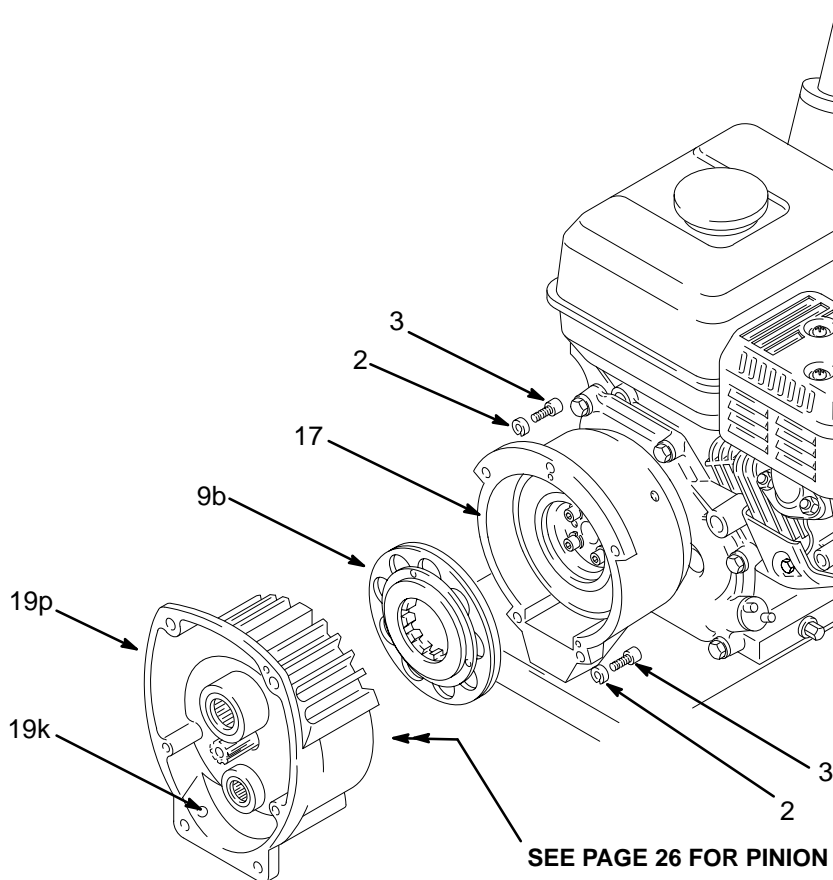

Fig. 20
6. Back off the piston housing just until the holes and flutes (B) mentioned in the CAUTION are perfectly aligned, and the tips (B) are not visible when you look through the holes (A). See Fig 20–1. Screw the piston housing (416) down to the nut (414) and torque to 90–125 ft-lb (122–170 N.m).
7. From the top of the pump housing (417), install the male gland (403). With the lips of the v-packings facing down, alternately install the leather packings (418*), and poly packings (402*). Install the female gland (419*).
8. Screw in the packing nut (420) loosely. It will be tightened after the pump is installed and operating.
9. Grease the o-rings on the cylinder (405). Slide the cylinder into the bottom of the pump housing (417).
10. Grease the piston rod (401) and piston packings. Slide the piston rod assembly into the bottom of the cylinder so it extends out of the piston housing 2–3 in. (50–75 mm). Be careful not to damage any packings.
NOTE: Refer to Fig. 20 for Steps 1 to 3.